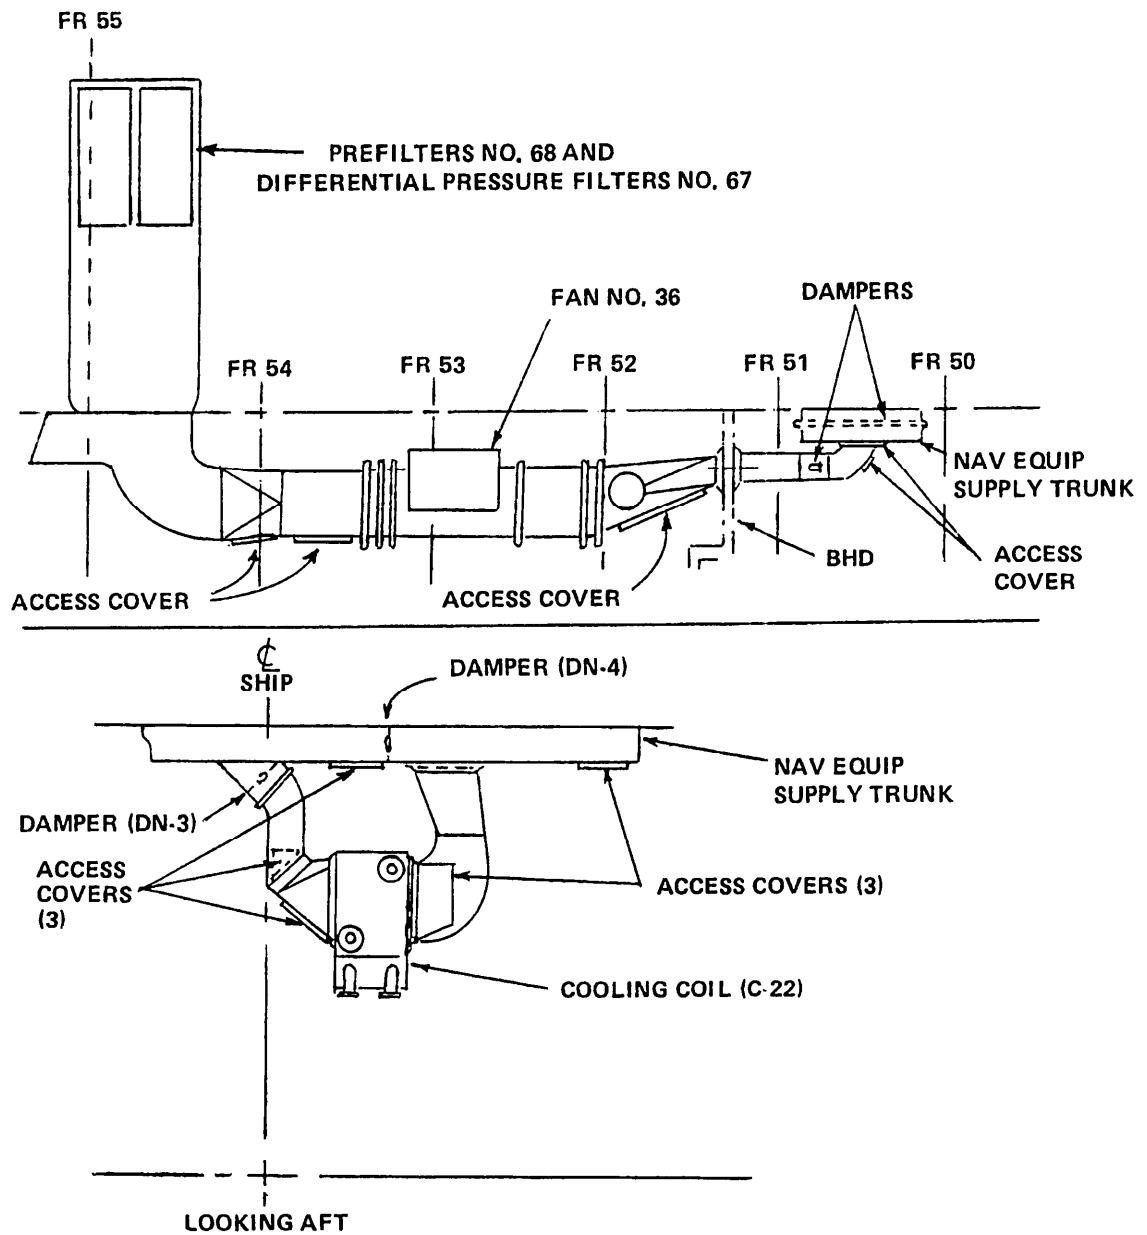

Figure 1. 608 Class navigation ventilation system equipment configuration
3. See figures 1 and 2 for the Navigation Equipment Ventilation System equipment configurations.
Note: See figures 1 and 2 for Ventilation System configuration.